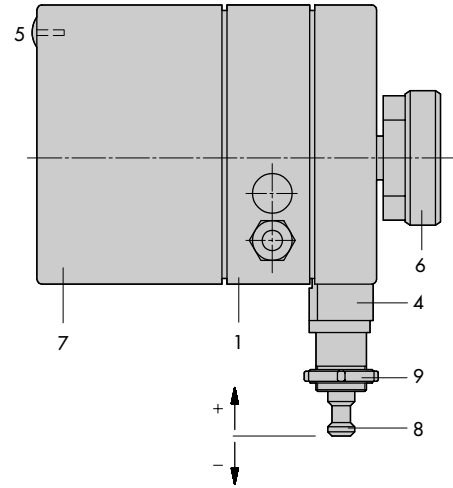

Fig. 4 · Type 5802-4
The attachment of a linear gear (4) converts the rotary actuator into the Type 5802 Linear Actuator illustrated in Fig. 4. For attachment to the Types 3260 and 3267 Valves with nominal sizes of DN 15 to DN 65, the actuator is supplied with a yoke. Both actuators are provided with manual override. When activating the push button (5), the coupling between output shaft (2) and motor is disengaged. Now the actuator can be manually adjusted by means of the lever linkage (3) or the handwheel (6).